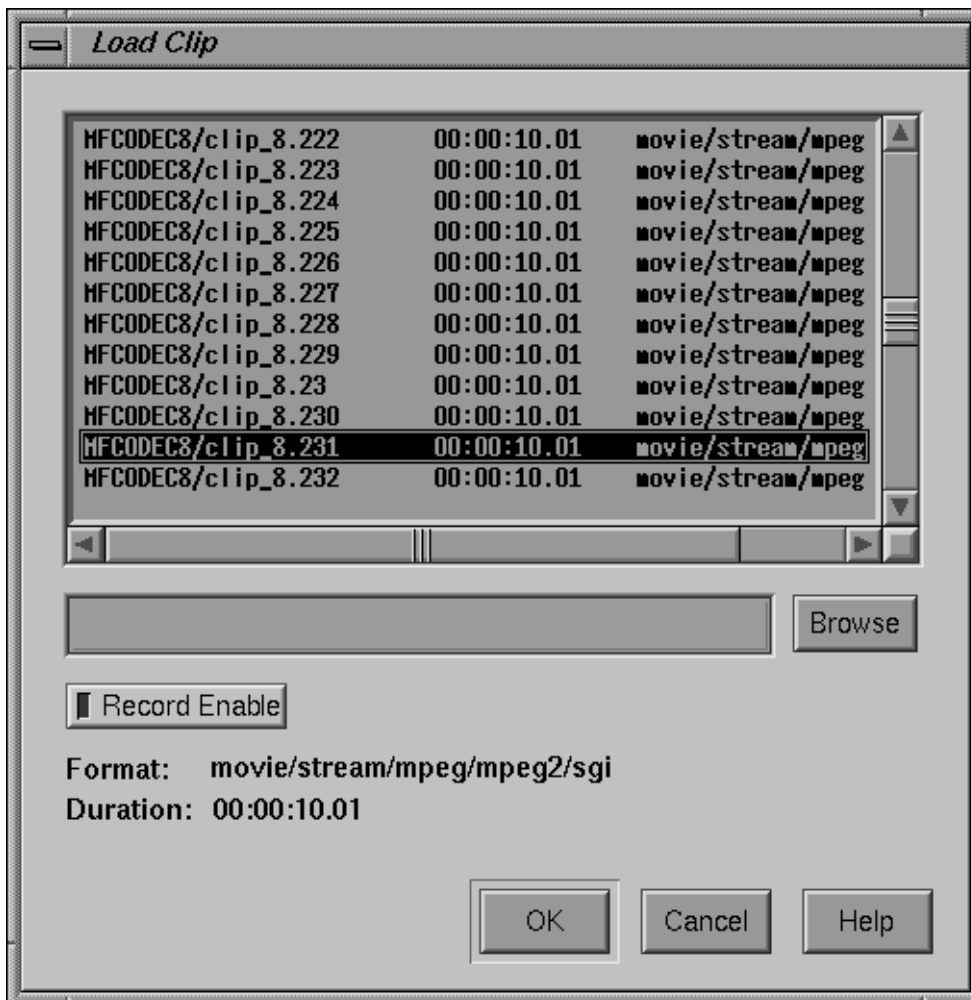

Figure A-3 Loading a Clip into the Logical VTR
- Click the **Load** button in the Media Control Panel. A window that lists the clips in the SGI Media Server cache appears, as shown in Figure A-3.